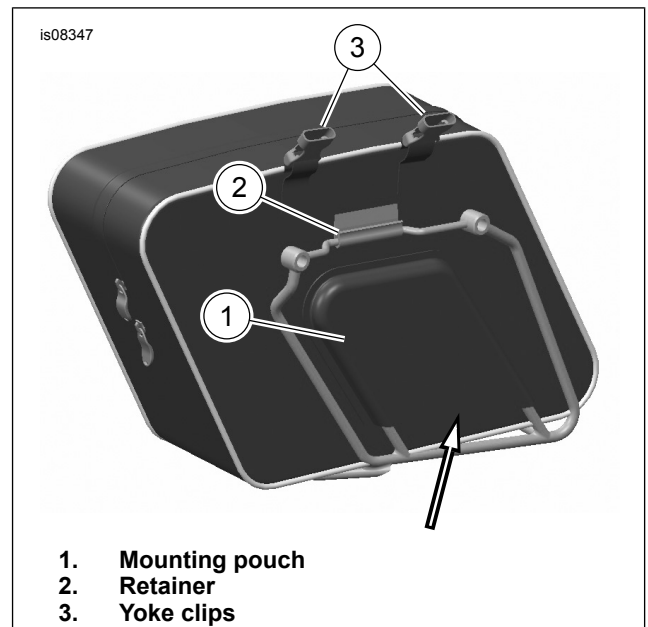
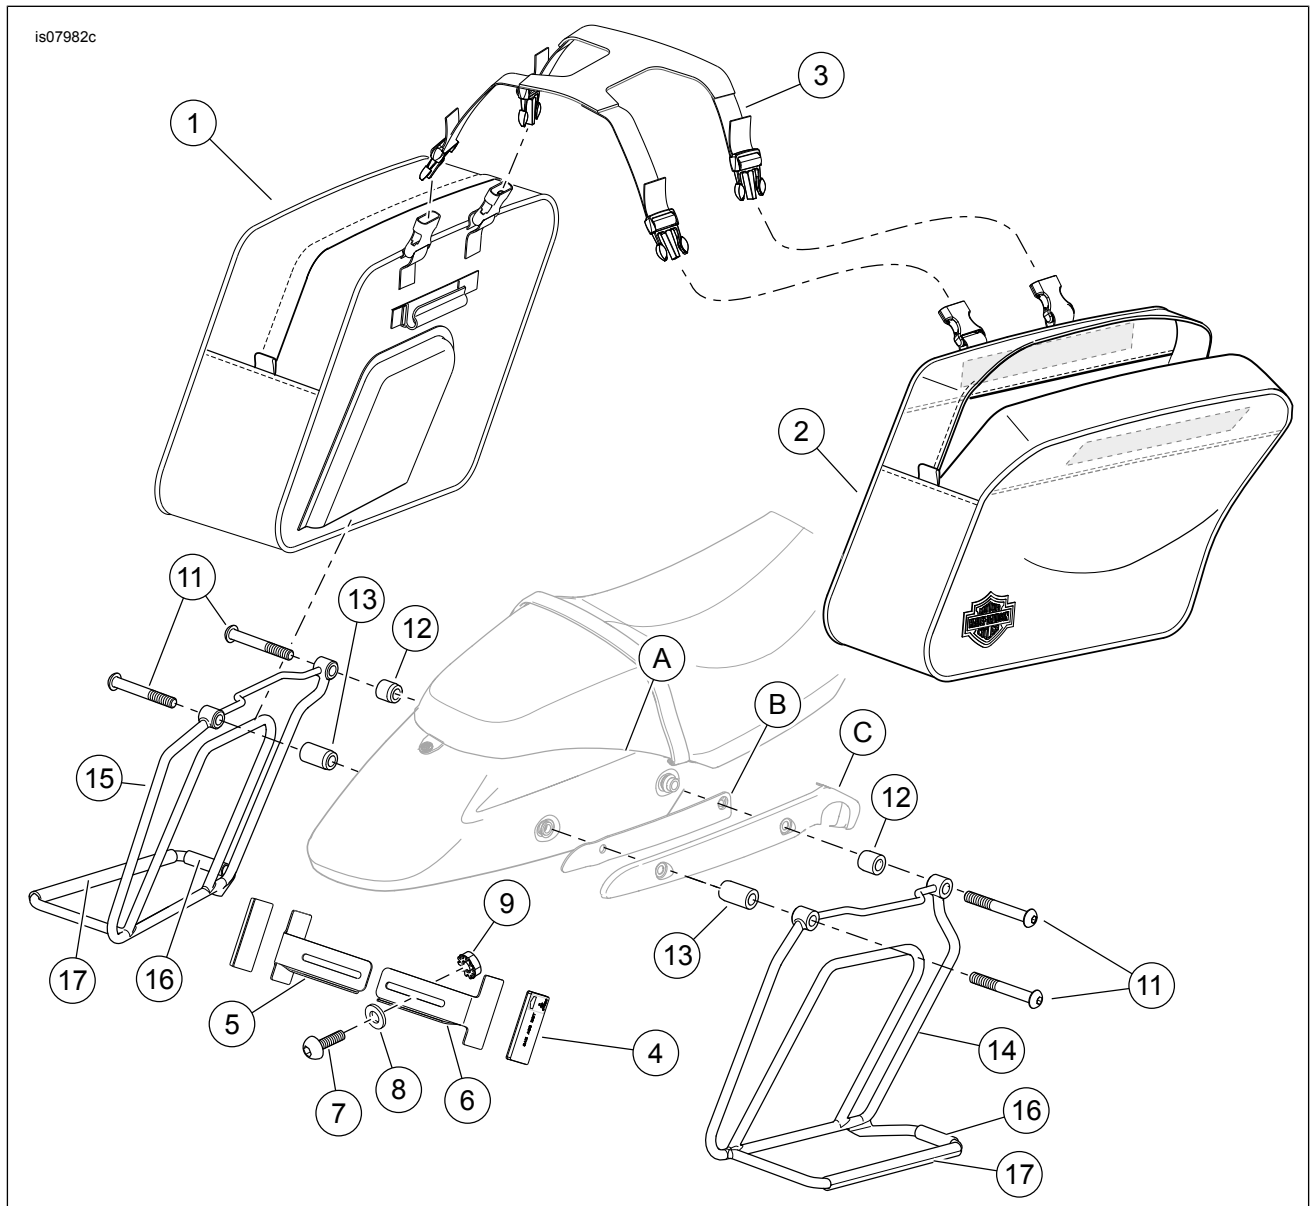

Figure 2. Saddlebag Installed
Figure 3. Kit Contents: Throw-Over Saddlebag Kit
See Figure 3 and Table 1.
3. See Figure 3. Secure saddlebag support:
- a. Apply Loctite 243 (Blue) to the threads on the screws before installing. Pass forward screw (11) through saddlebag support, front spacer (12), fender support cover (C), support cover spacer (B) and fender (A). Verify that chamfer on spacer is facing inboard. Secure to frame finger-tight.
- b. Repeat with rear screw using rear spacer (13).
- c. Install screw (11) to secure rear of saddlebag support.
- d. Tighten screws (11) to 45–55 N·m (34–40 ft-lbs).
- a. Select the same color reflector (4) as originally equipped.
1. See Figure 2. Place saddlebag mounting pouch (1) over the inner hoop of the saddlebag bracket.
2. Secure retainer (2) onto saddlebag support cross member by pulling up on the yoke clips (3). A positive snap feel verifies engagement.
4. See Figure 3. Install yoke (3) onto saddlebags and over seat. Cinch tight until saddlebags are secure.